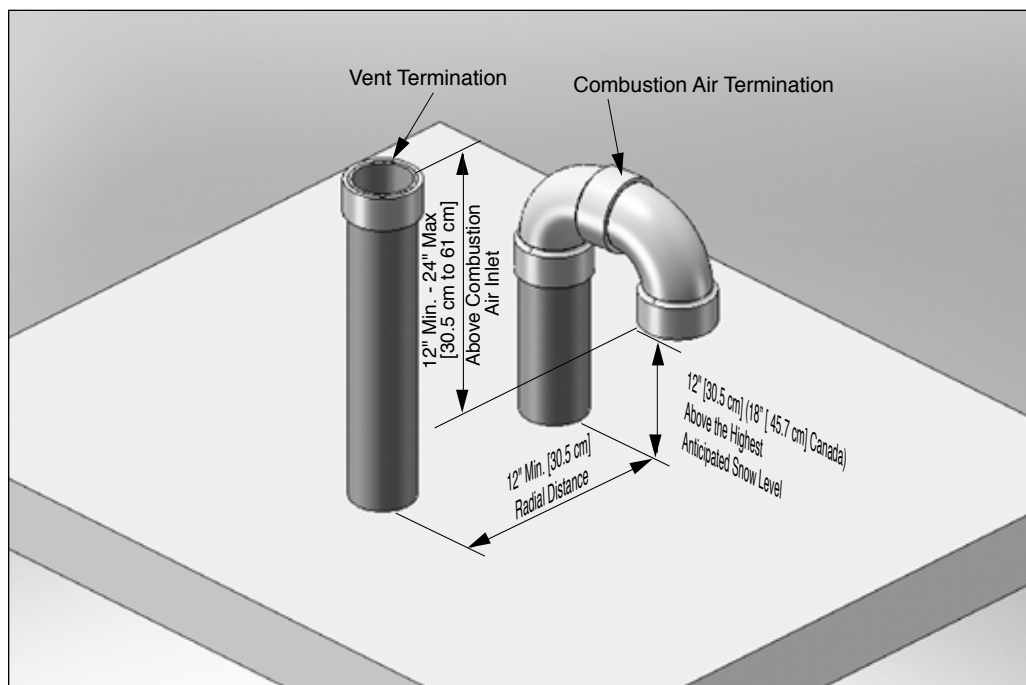

Fig. 1 - Direct Vent - Vertical Termination of Vent and Combustion Air Piping.
2. The combustion air piping must terminate in an upside down "U" shape fashion using two 90° elbows, as shown in *Fig. 1 on page 12*. The termination must be located 12" [30.5 cm] (18" [45.7 cm] in Canada) above the highest anticipated snow level.
3. The vent piping must terminate vertically with a coupling to accept the bird screen and must be located 12" to 24" [30.5 cm to 61 cm] above the combustion air inlet as shown in *Fig. 1 on page 12*.
4. The vent and combustion air terminations must be located at a radial distance of 12" to 24" [30.5 cm to 61 cm] from centerline of vent termination to centerline of air termination as shown in *Fig. 1 on page 12*.
3. Locate the vent and combustion air pipe penetrations to provide clearances as described in *Fig. 1 on page 12*.
2. The combustion air piping must terminate in an upside down "U" shape fashion using two 90° elbows as shown in *Fig. 1* on page 12.
3. The vent piping must terminate vertically with a coupling as shown in *Fig. 1* on page 12.
Do not extend the vent pipe above the roof beyond the dimensions shown in *Fig. 1* on page 12. Extended exposure of the vent pipe could cause condensate to freeze and block the vent pipe, resulting in substantial property damage, serious injury, or death.